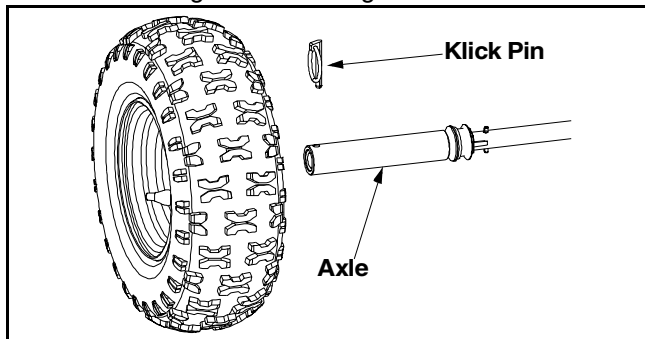

Figure 13
- Oil or spray lubricant into bearings at wheels at least once a season. Pull click pin, remove wheels, clean and coat axles with a multipurpose automotive grease. See Figure 13.